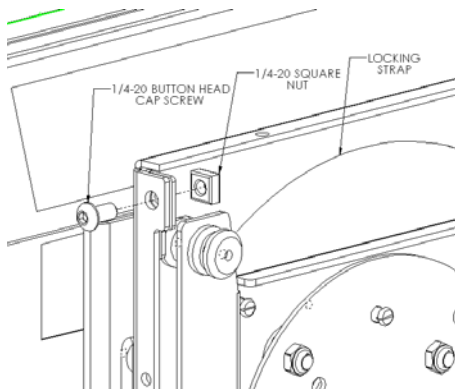
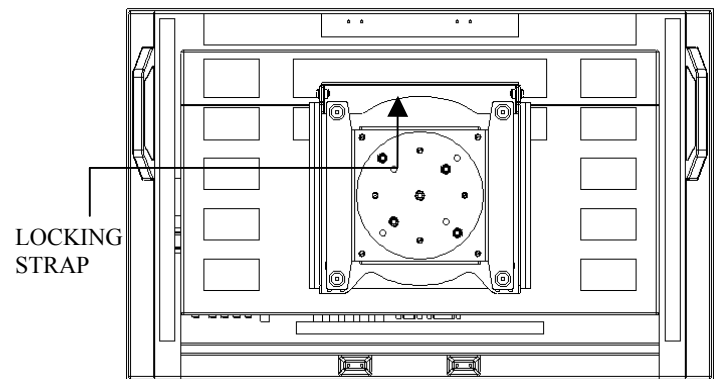

Figure 5
Figure 6
4. Place locking strap over top mounting buttons and secure using two 1/4-20 button head cap screws and two 1/4-20 square nuts. Use 1/4-20 tamper-proof security screws and 5/32" security hex key (provided) for added security. See Figure 5 and Figure 6.